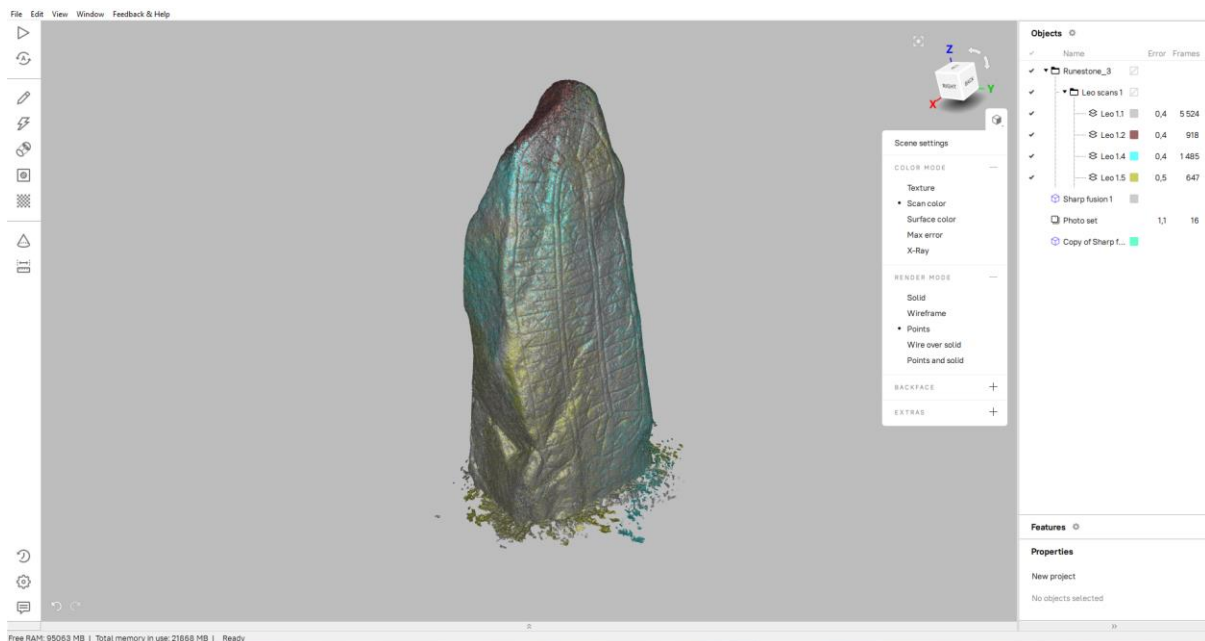

Figure 1. The scans are imported in Artec Studio (image credit: the author).
- Launch Artec Studio. Choose File → Import → Leo project. Browse through the folder structure to locate the desired project (See Fig.1).